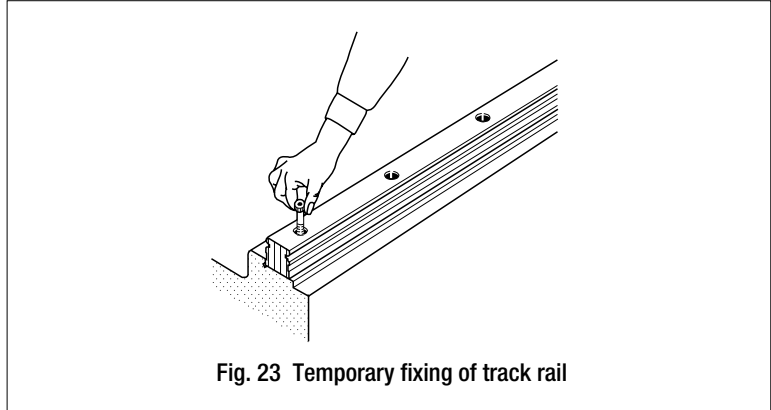

Fig. 23 Temporary fixing of track rail
② Temporary fixing of Linear Way I and II track rails
- Correctly fit the reference mounting surface of Linear Way I track rail onto the mating reference mounting surface of the bed, and temporarily fix the track rail with mounting bolts. (See Fig. 23.)